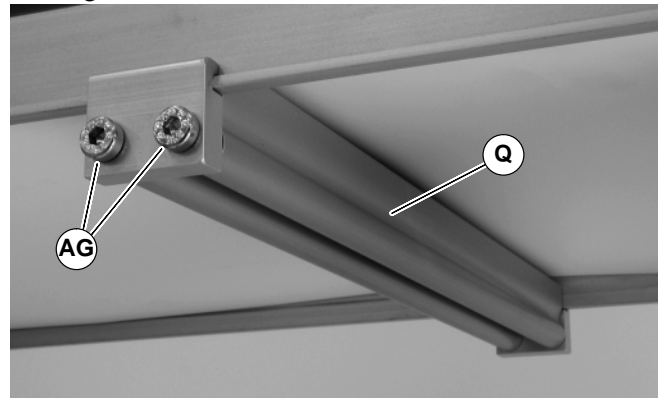

Figure 16
3. Install roller assembly as shown (Q of Figure 16). Tighten screws (AG) to 60 in-lb (7 Nm).